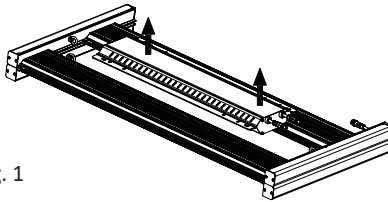

Fig. 1
- a. Take out the lighting fixture (Part A) and driver (Part B) out of box separately with care, as Fig. 1.